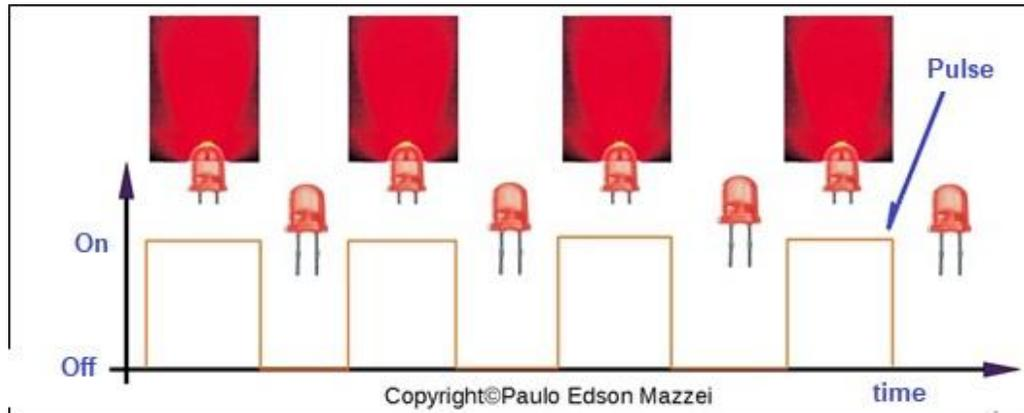

Figure 94- Pulses generated when turning on and off an LED.
These LED flashes can be drawn and interpreted as a diagram, shown in **figure 94**.
Signals or pulses like those in **Figure 94** can be transmitted and some of their data changed to become a code, a voice signal, and so on.
We can define as **pulse** a rapid variation in the amount of current (I) circulating in a circuit as a function of time. These pulses are represented by diagrams as in **Figure 94** and are very important in electronic circuits.